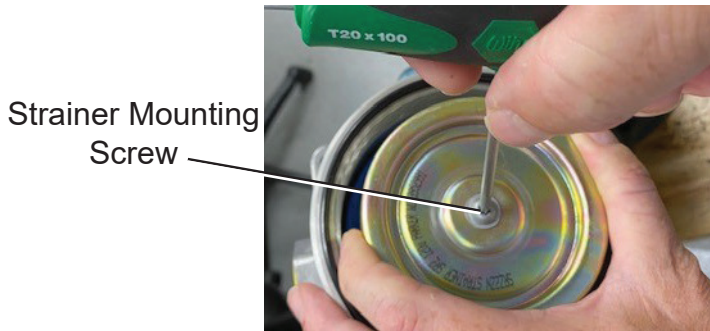

Figure 4 - Strainer Mounting Screw Removal
7. Loosen and remove the strainer mounting screw, see Figure 4.